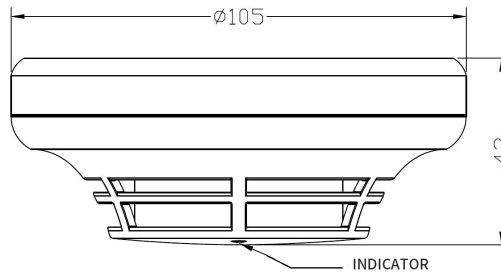
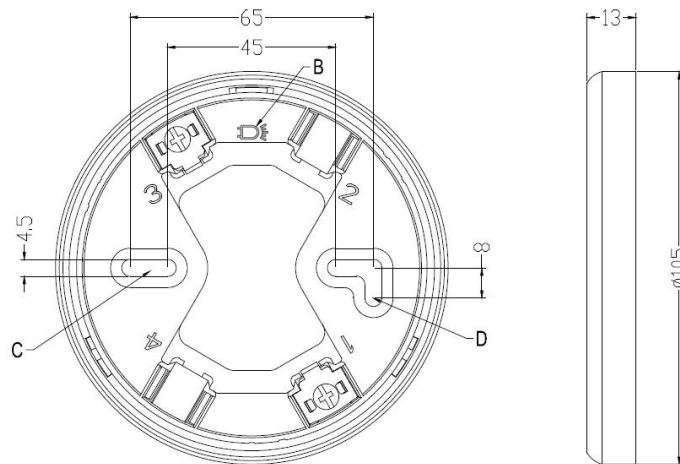

Fig.1 (Unit: mm)
Fig.5
4 Product Appearance and Size (see Fig.1)
The installation of the detector requires the use of a supporting base, shown in Fig.5. The external dimension is 105mm × 13mm(diameter × thickness), the fixed hole diameter is 4.5mm, and the spacing of fixed holes is 45mm ~ 65mm.
- b. Use two M4 screws to fix the matched mounting base on the designated position via the mounting holes C and D shown in Fig.5, as instructed in the construction drawing and make sure the matched mounting base has been firmly installed.
- e. Align the indicator light at detector A (as shown in Fig.1) with the pattern at base B (as shown in Fig.5), and then insert the detector into the base, turn the detector clockwise until the detector is locked in place;